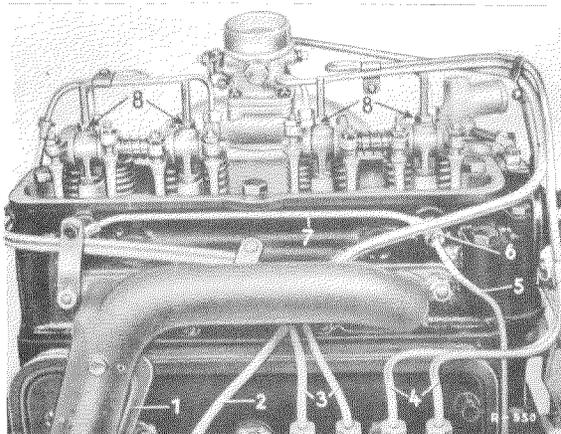

Figure 07-15/1
If the vacuum line (2) is also removed, disconnect same at the diaphragm housing of the injection pump and at the throttle duct (Figure 07-15/1).
**Note:** On the engines of the type 636.915 with two-piece cylinder head cover, the injection lines are installed between the two covers. Furthermore, the oil line (7) lubricating the rockers is installed on top of the injection lines and must therefore be removed before the removal of the injection lines (Figure 07-15/1).
3. Disconnect the feed hose (3) between the feed pump (2) and the filter (8), the connection hose (6) between filter (8) and injection pump (1) (see Figure 07-15/2).